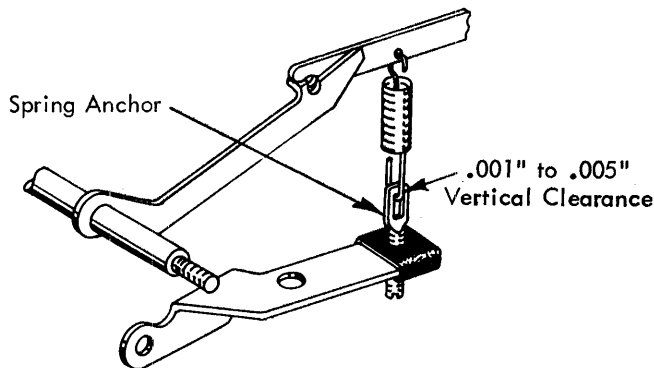

FIGURE 191. Spacebar Repeat Stop (Late Style)
- b. Late Style - The spring anchor should be adjusted up or down so that .001" to .005" clearance exists between the spring and the anchor, when a single operation takes place as the spacebar is depressed slowly (Fig. 191).